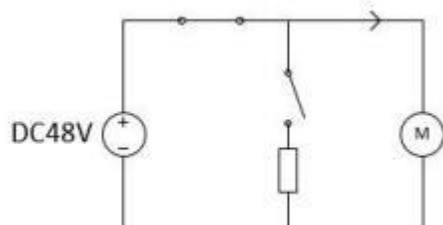
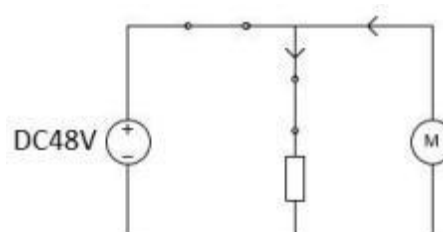

Figure 1-1 Resistor off ( $V_{DC} \leq 52V$ )
Figure 1-2 Resistor on ( $V_{DC} \geq 55V$ )
(1) The power discharge module is a dedicated component for handling the regenerative braking kinetic energy of robot joint modules operating under high-speed and heavy-load conditions, thereby preventing the bus voltage overvoltage alarm and shutdown caused by the surge in power supply voltage due to regenerative energy feedback.
(2) When the joint module is powered by a 48V switching power supply, the operating circuit with the added power discharge module can be simplified and equivalent to the diagrams shown in Figure 1-1 and Figure 1-2.
(3) The discharge resistor functions to dissipate excess energy through resistance when the circuit loop is in the kinetic energy recovery process, thus avoiding the power supply voltage surge induced by regenerative energy feedback. However, the discharge resistor cannot be connected to the circuit for an extended period; otherwise, it will continuously generate excessive heat, leading to component damage, circuit malfunctions and unnecessary power consumption. Therefore, it is recommended to design a
reliable control logic for the discharge resistor connection. When the joint module is powered by a 48V switching power supply, the control logic for the discharge resistor connection of the power discharge module is as follows: the resistor is disconnected when  $V_{DC} \leq 52V$  (see Figure 1-1), and the power supply only outputs electric energy to the motor at this time; the resistor is connected when  $V_{DC} \geq 55V$  (see Figure 1-2), and the excess electric energy is dissipated through the resistor at this time.